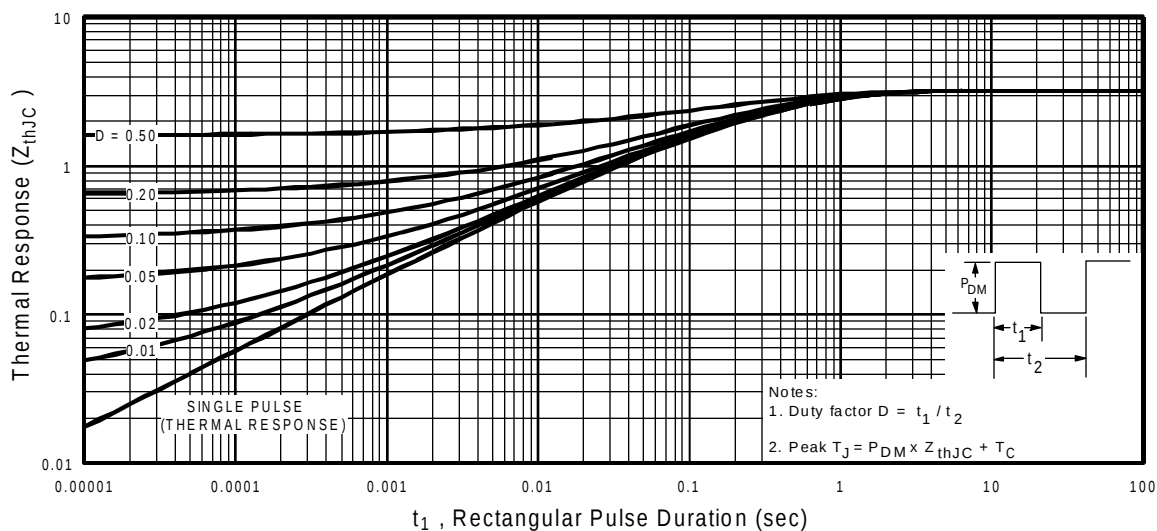

Fig 11. Maximum Effective Transient Thermal Impedance, Junction-to-Case
- ① Repetitive rating; pulse width limited by max. junction temperature. (See fig. 11)
② $V_{DD} = 15V$, starting $T_J = 25^\circ\text{C}$, $L = 220\mu H$